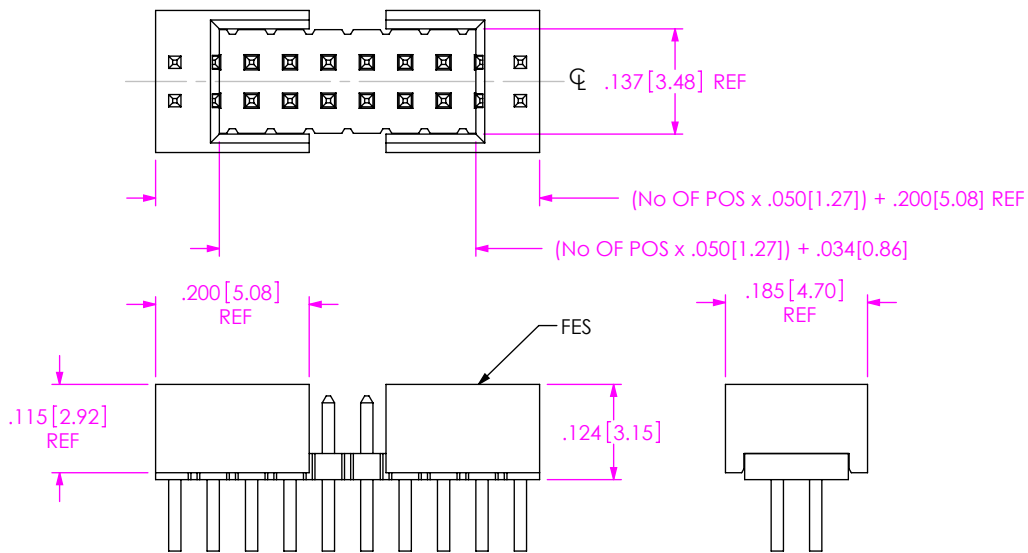

FIG 6
- S: END SHROUDS (SEE FIG 3, SHT 2 & FIG 6 SHT 3) (LEAD STYLE -02 & -03 ONLY) (05 POS MINIMUM, 46 POS MAXIMUM) (NOT AVAILABLE WITH -A OPTION; ORDER -SA FOR ALIGNMENT PIN WITH SHROUD) (SEE NOTES 6 & 7)